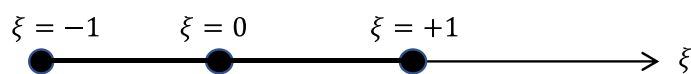

Figure 2
4. (16%) Consider a quadratic element in Figure 2. (a) Compute the Jacobian using the isoparametric formulation (note: ξ is now ranging from -1 to 1) and (b) derive the element strain ϵ_x .